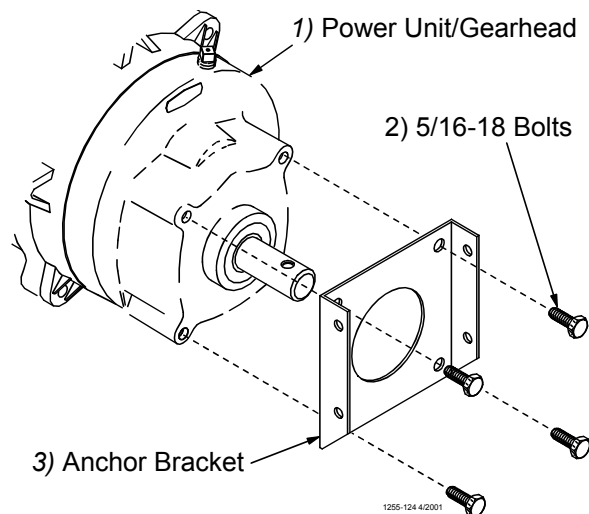

Figure 68. Assemble the Anchor Bracket to the Power Unit/Gearhead
3. Install the Anchor Bracket to the Power Unit/Gearhead, as shown in **Figure 68**, with the included 5/16-18 Bolts.